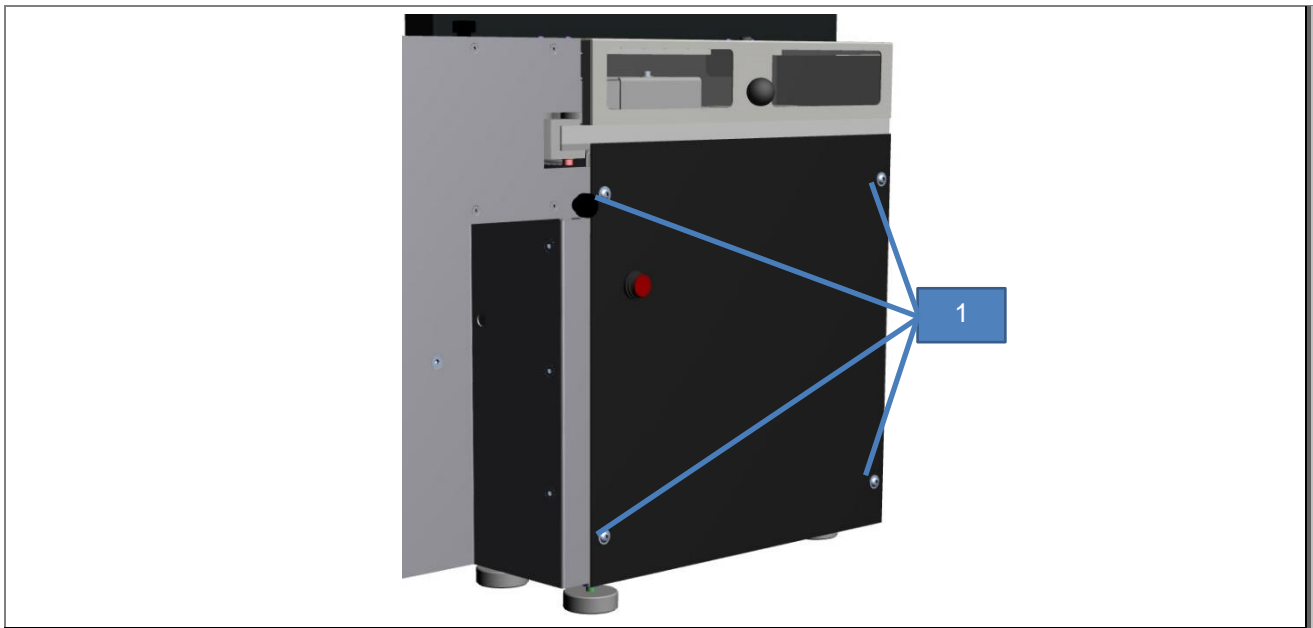

Fig. 2: Side cover
1. Remove the screws (1) (see Fig. 2: Side cover).